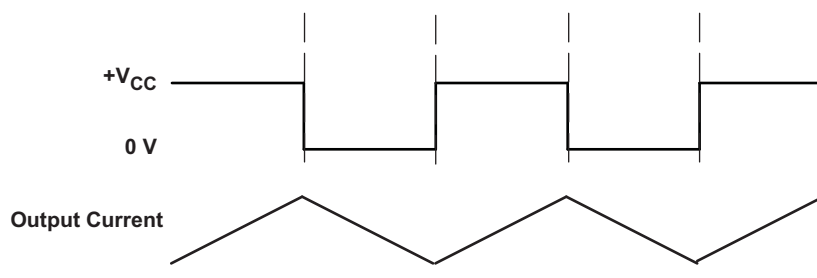
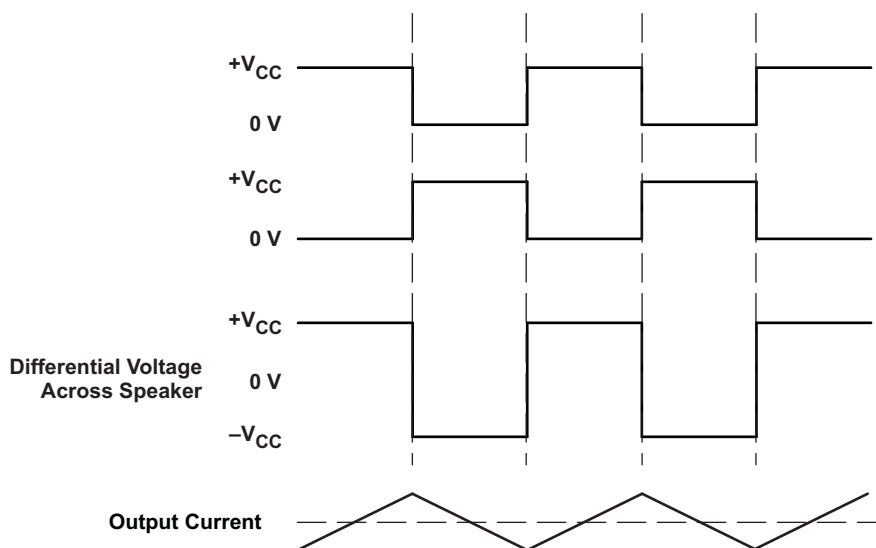

Figure 25. Class-D Modulation for TPA3124D2 SE Configuration
Figure 26. Class-D Modulation for TPA3124D2 BTL Configuration
The TPA3124D2 operates in AD mode. There are two main configurations that may be used. For stereo operation, the TPA3124D2 should be configured in a single-ended (SE) half-bridge amplifier. For mono applications, TPA3124D2 may be used as a bridge-tied-load (BTL) amplifier. The traditional class-D modulation scheme, which is used in the TPA3124D2 BTL configuration, has a differential output where each output is 180 degrees out of phase and changes from ground to the supply voltage,  $V_{CC}$ . Therefore, the differential prefiltered output varies between positive and negative  $V_{CC}$ , where filtered 50% duty cycle yields 0 V across the load. The class-D modulation scheme with voltage and current waveforms is shown in Figure 25 and Figure 26.